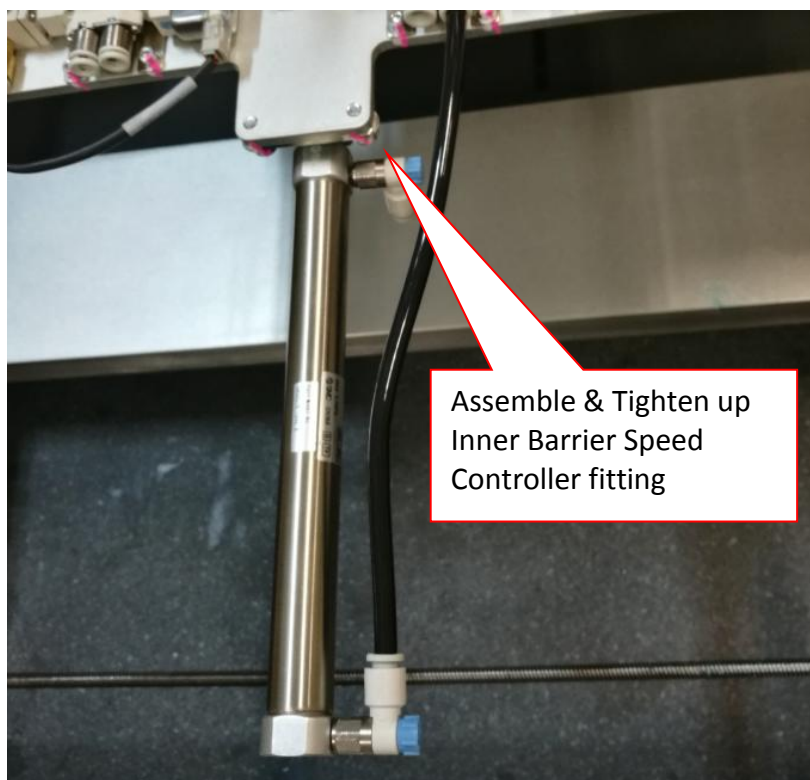

Figure 10 Speed control fitting assembly
19. Assemble & Tighten up Inner Barrier Speed Controller Fitting as shown in Figure 10